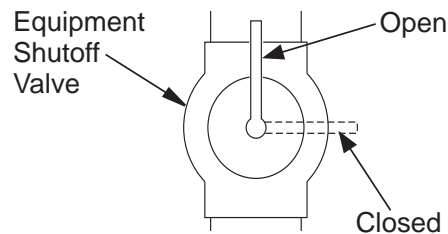

Figure 15 - Equipment Shutoff Valve
1. Close equipment shutoff valve (see *Figure 15*).